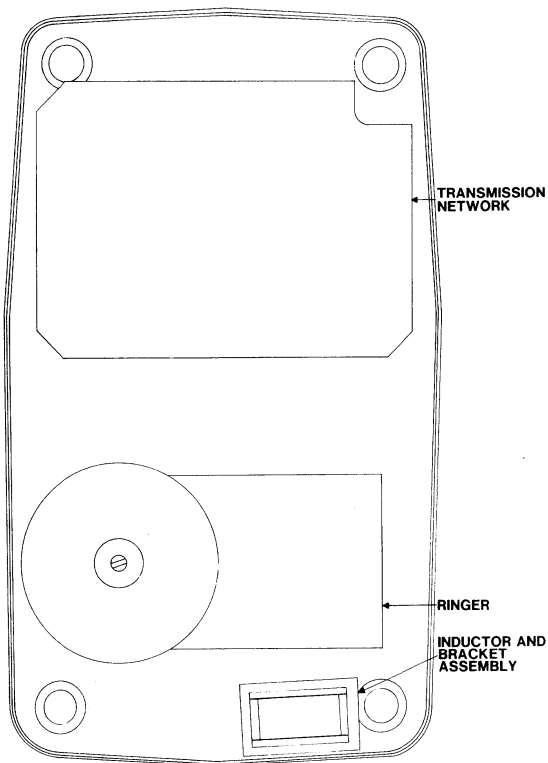

Figure 4. Mounting Inductor in Type 182A, 182B, 192A, and 192B Telephones.
3.06 To mount the inductor assembly (D-284686-A) in a Type 182B or 192B telephone, refer to Figure 4 and proceed as follows: